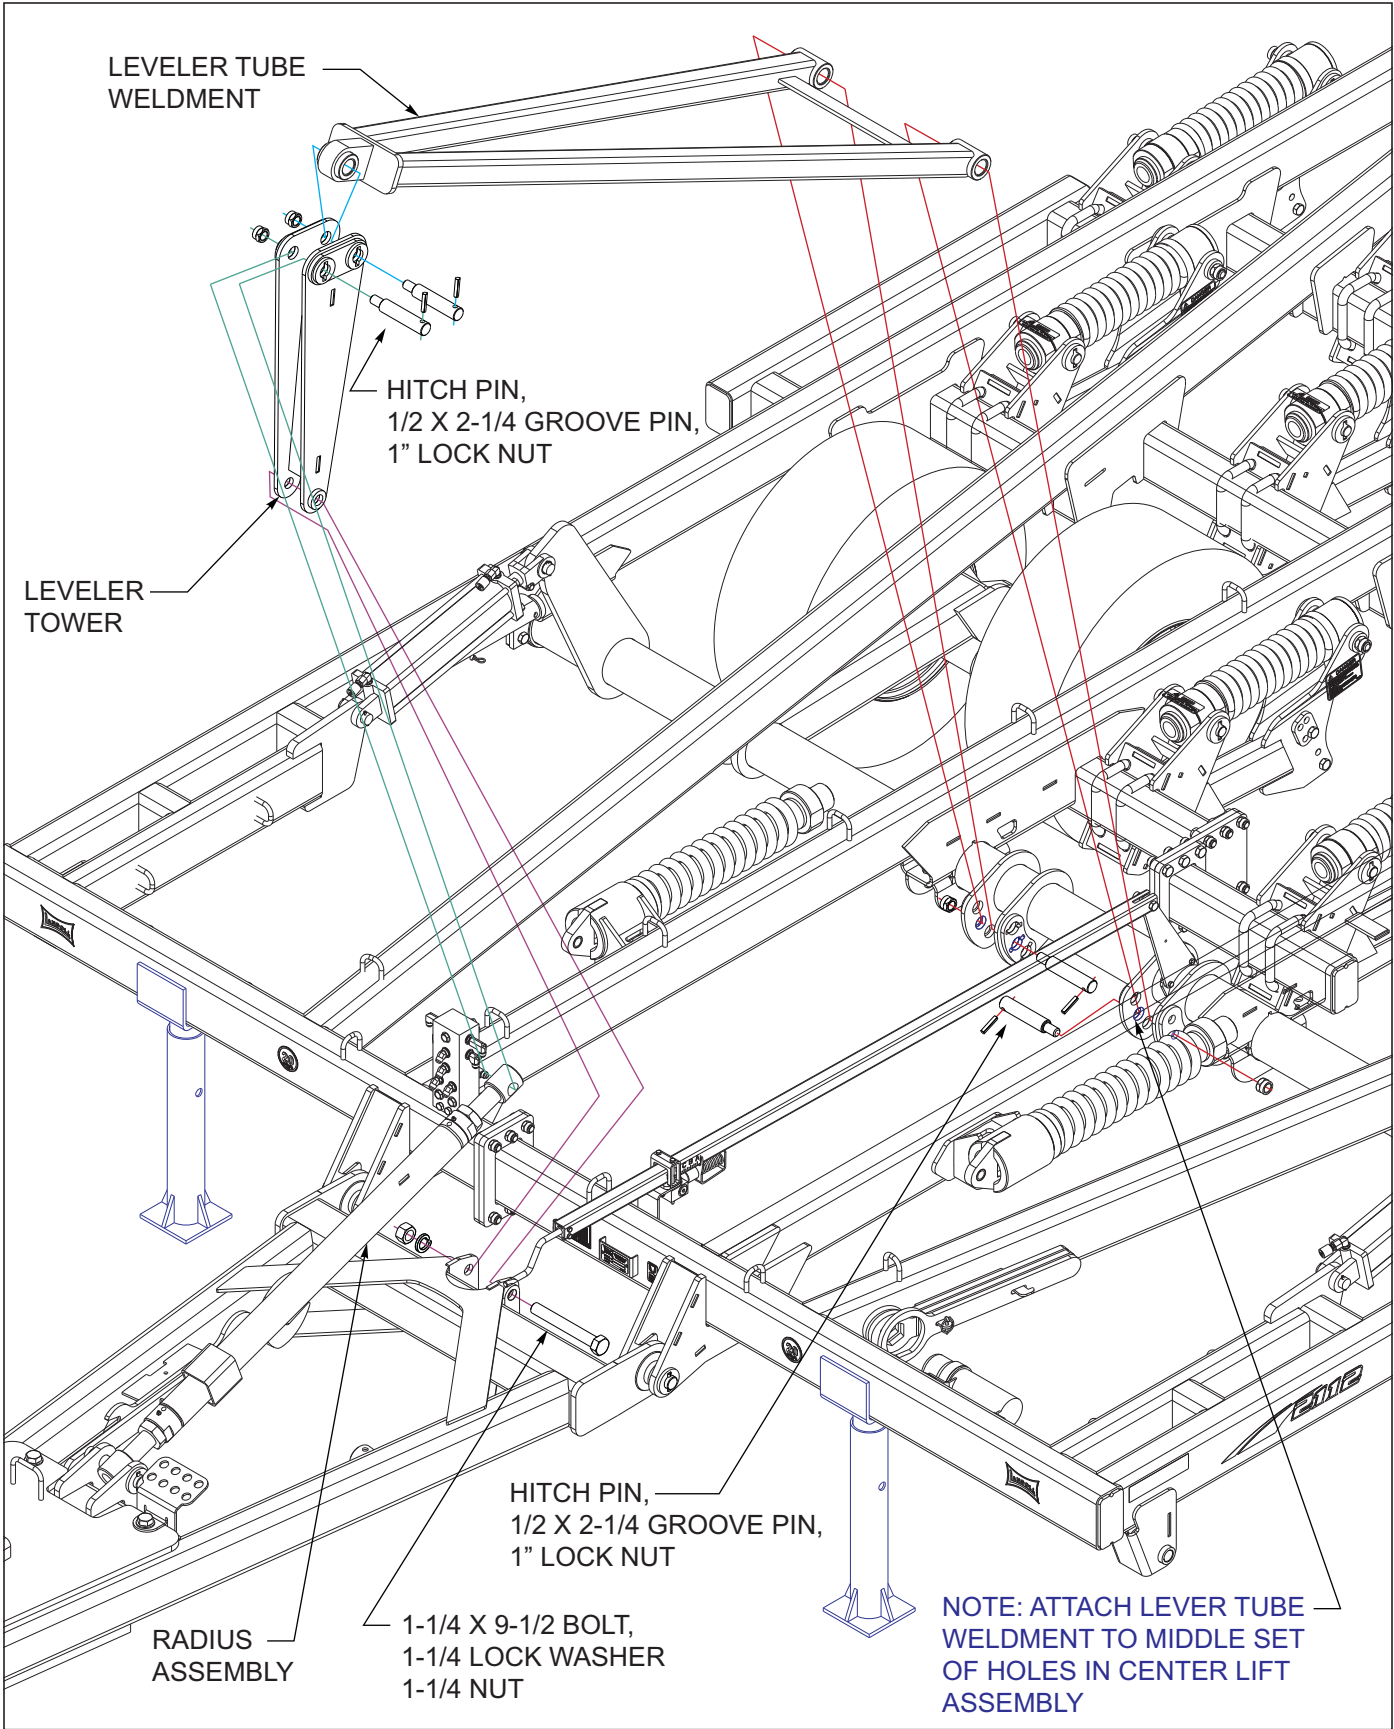

Figure 3-8: Hitch Leveling Assembly
1. Connect narrow end of the leveler tower to the top hole on rear of the hitch assembly using 1-1/4-7 x 9-1/2 hex head cap screw, slotted lock washer, and hex nut *See Figure 3-8*.